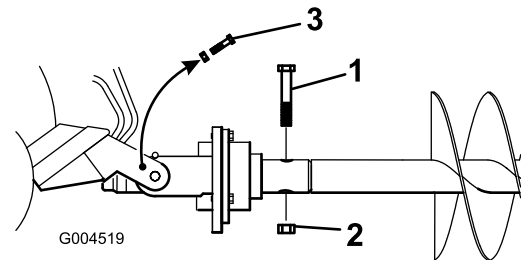

Figure 8
10. Secure the auger to the drive head with a bolt (7/8 x 4-1/2 inch) and nut (7/8 inch) as shown in Figure 8.